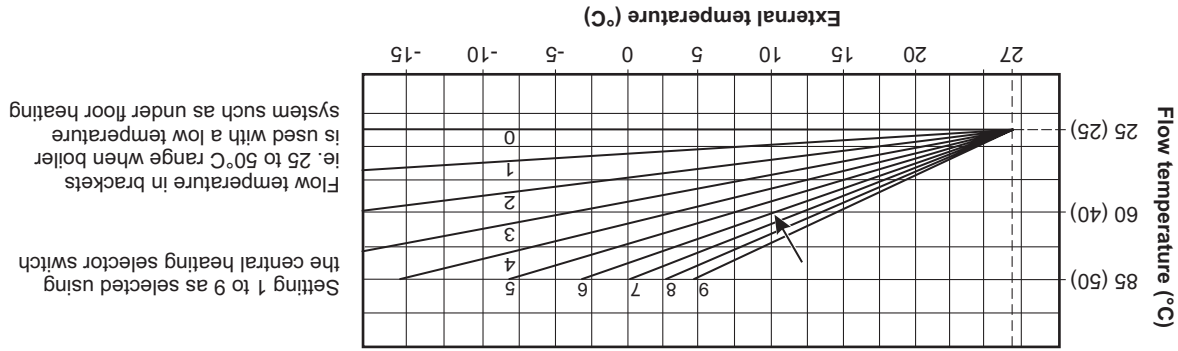
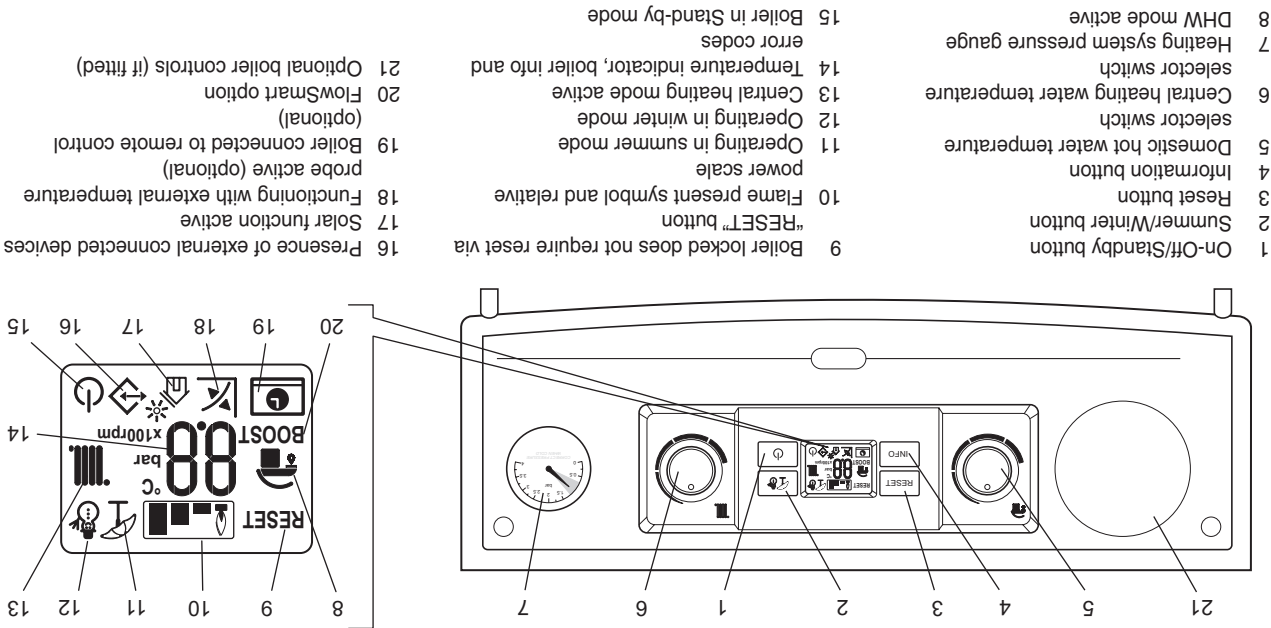

Fig. 2 - External weather compensation probe fitted
Fig. 1
On - In this mode the boiler can be switched between 'Summer' or 'Winter' settings by pressing the Summer/Winter button (item 2 in Fig. 1).
The temperature of the hot water to the taps can be adjusted by turning the hot water selector switch (item 5 in Fig. 1) to the required value shown on the display in °C.
The temperature of the central heating water can be adjusted by turning the central heating selector switch (item 6 in Fig. 1). When the heating is on the temperature of the water leaving the boiler to the radiators will be displayed.
If an external weather compensation probe is fitted, indicated by the  symbol (item 18 in Fig. 1) in the display, it will automatically vary the temperature of the water in the radiators and on mild day the radiators will not feel as hot as on a cold day, this is normal and not a fault with the boiler or heating circuit. The room temperature will still be maintained as set by the room thermostat.
When an external weather probe is fitted, the central heating selector switch (item 6 in Fig. 1) will no longer adjust the flow temperature in °C, instead the display will show a scale of 1 to 9. Each number corresponds to a line on the graph in Fig 2
To fill or pressurise the system open one tap fully by turning it 90° anticlockwise in line with the tap housing. The second tap should be opened a quarter of a turn and the water will start to refill the system (water should be heard filling the system). You should see the pressure gauge (item 7 in Fig. 1) rise back up into the green area on the pressure gauge between 1 bar and 1.5 bar pressure.
Make sure the heating system is filled and the needle on the pressure gauge (item 7 in Fig. 1) is in the green band. If incorrect refer to Section 5.
Switch the boiler on at the mains supply socket switch. The boiler will automatically go through a system purging operation for 8 minutes; this is indicated by a count down on the display starting from 96. During this operation the pump will turn on and off to help remove any air that may be trapped in the heating system. If the boiler has already been commissioned by the installer then this operation can be terminated by pressing the reset button (item 3 in Fig. 1).
By pressing the On-Off button (item 1 in Fig. 1) the Standby or On mode can be selected, or press and hold the On-Off button for eight seconds to turn the boiler off.